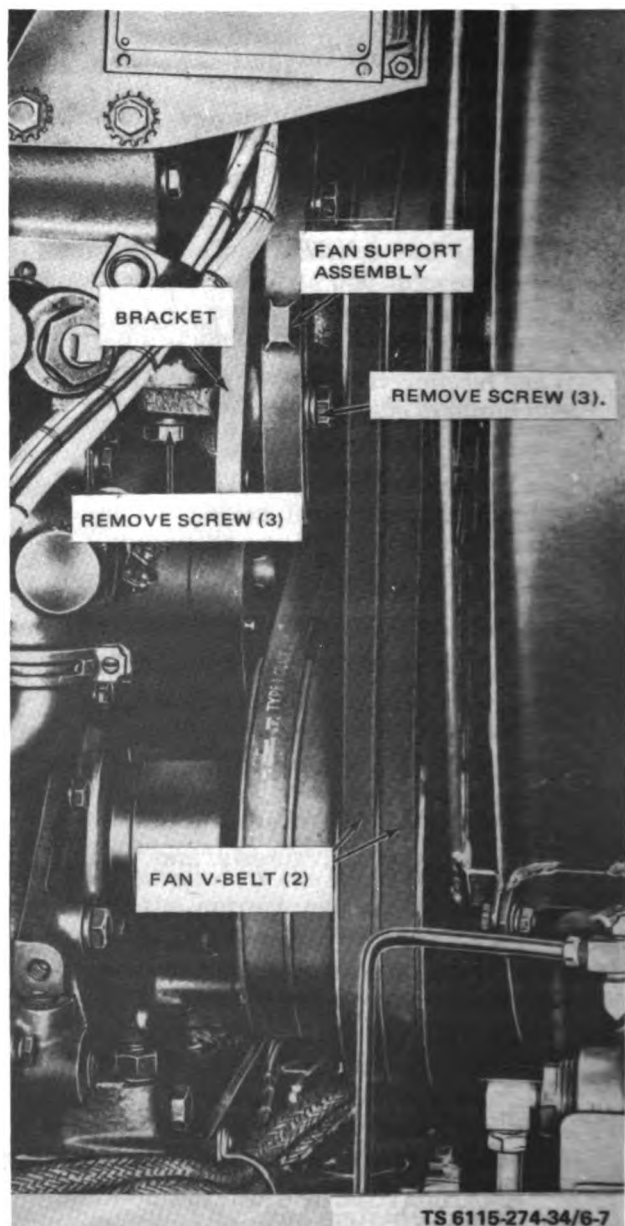
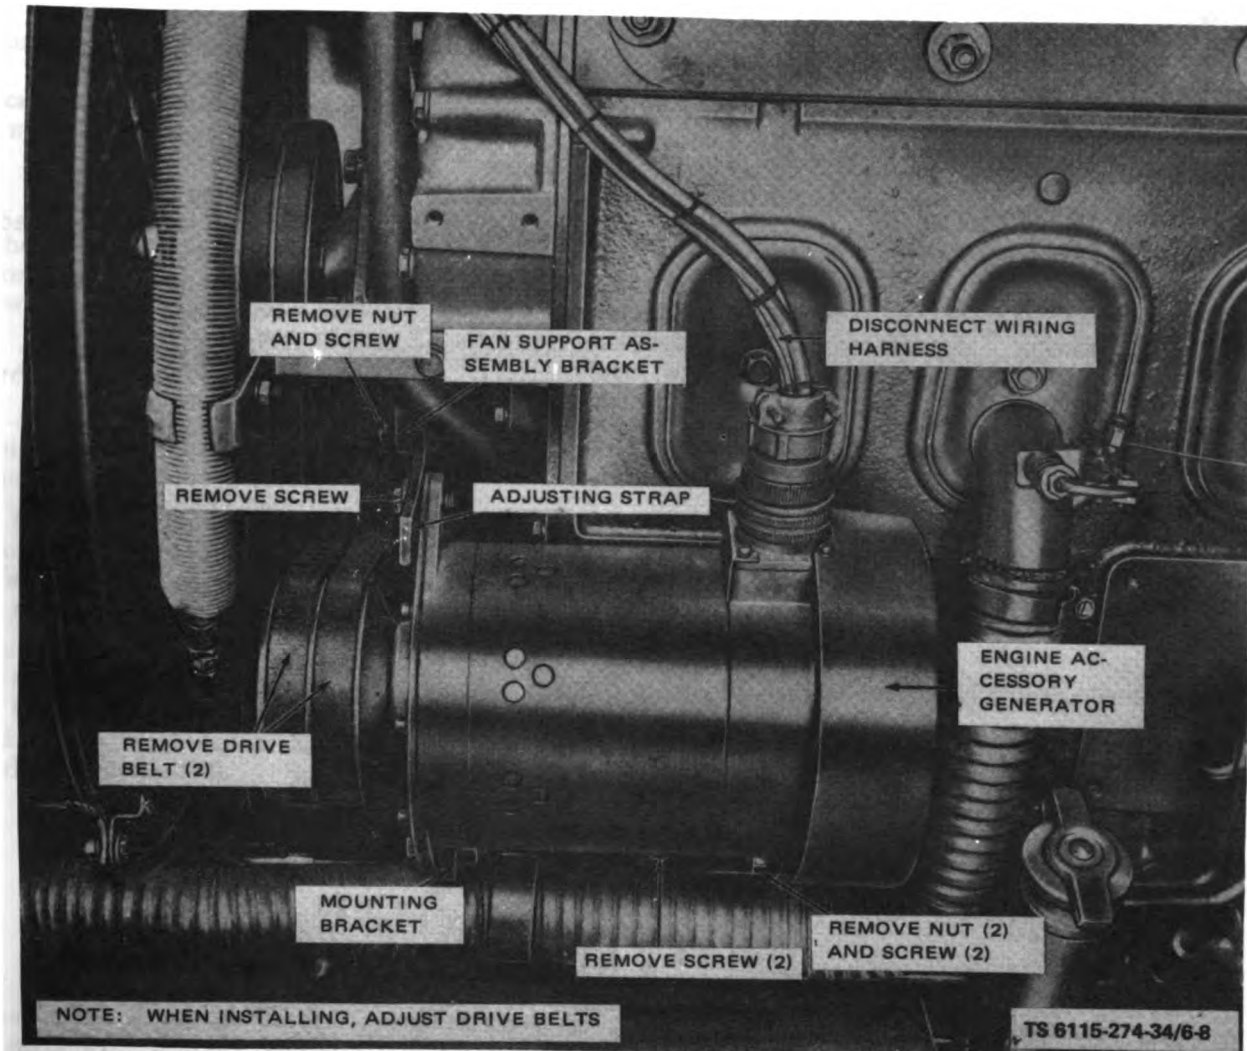

Figure 6-7. Fan V-Belts, Removal and Installation
Figure 6-8. Engine Accessory Generator, Removal and Installation
(2) To remove fan V-belts (fig. 6-7), loosen screws securing the fan support assembly to the bracket and move the fan support assembly down to relieve tension. The belts are removed from the lower pulley only.
(3) Disconnect wiring harness from engine accessory generator as shown on figure 6-8.
(4) Remove nuts and screws and adjusting strap.
(5) Remove drivebelts.
(6) Remove screws holding mounting bracket and remove bracket.
(7) Remove generator.
(1) Install generator (fig. 6-8) and mounting bracket with screws.
(2) Attach adjusting strap with nuts and screws but do not tighten.
(3) Install drivebelts and position generator so that belts deflect 5/8 inch midway between pulleys. Tighten adjusting strap screws.
(4) Connect wiring harness.
(5) Refer to figure 6-7 and replace fan belts over lower pulley. Adjust fan support assembly so that the belts deflect 5/8 inch midway between the pulleys. Tighten screws on fan support assembly.
(6) Install fan guard and attach with nuts and screws.